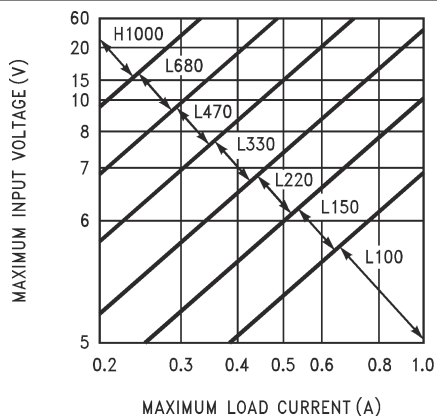
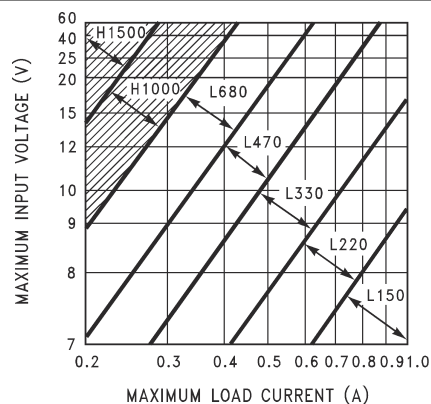
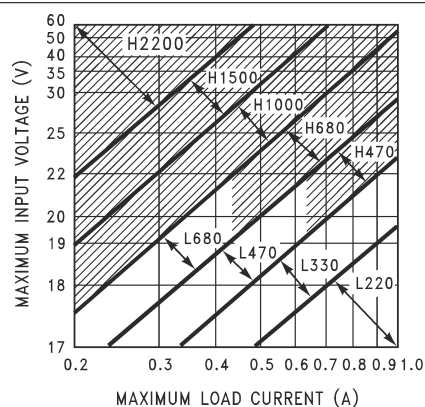

图 9-2. TL2575-33
图 9-3. TL2575-50
图 9-5. TL2575-15
1. Inductor Selection (L1) A. From 图 9-2 through 图 9-5, select the appropriate inductor code based on the intersection of $V_{IN(Max)}$ and $I_{LOAD(Max)}$. B. The inductor chosen should be rated for operation at 52-kHz and have a current rating of at least $1.15 \times I_{LOAD(Max)}$ to allow for the ripple current. The actual peak current in L1 (in normal operation) can be calculated as follows: $I_{L1(pk)} = I_{LOAD(Max)} + (V_{IN} - V_{OUT}) \times t_{on} / 2L1$ Where $t_{on} = V_{OUT} / V_{IN} \times (1 / f_{osc})$	1. Inductor Selection (L1) A. From 图 9-3 (TL2575-05), the intersection of 20-V line and 1-A line gives an inductor code of L330. B. L330 $\rightarrow$ L1 = 330 μ H Choose from: 34042 (Schott) PE-52627 (Pulse Engineering) RL1952 (Renco)